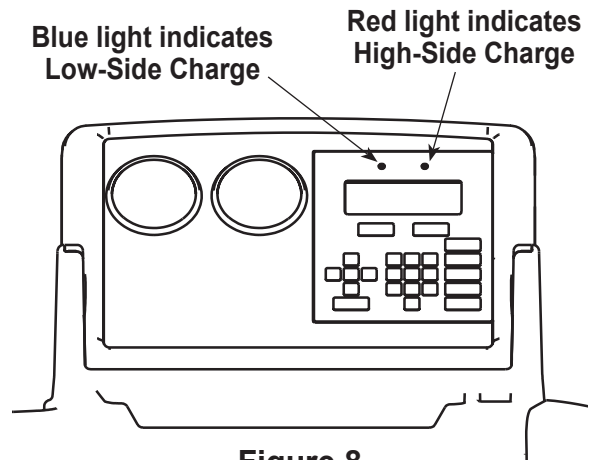

Figure 8
2. Press **CHARGE** again to toggle between a high-side charge, a low-side charge, or both. *Note: The blue light on the control panel indicates a low-side charge; the red light indicates a high-side charge. See Figure 8.*